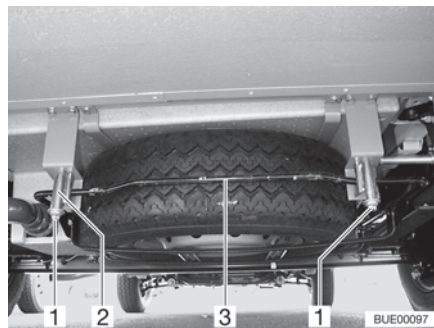

Fig. 200 Spare wheel support (basket)
- Loosen the nuts (Fig. 200,1) on the right and left rear hooks (Fig. 200,2) of the spare wheel support.
- Pull the bar (Fig. 200,3) slightly upwards. At the same time, pull down the hooks and unhook the bar.